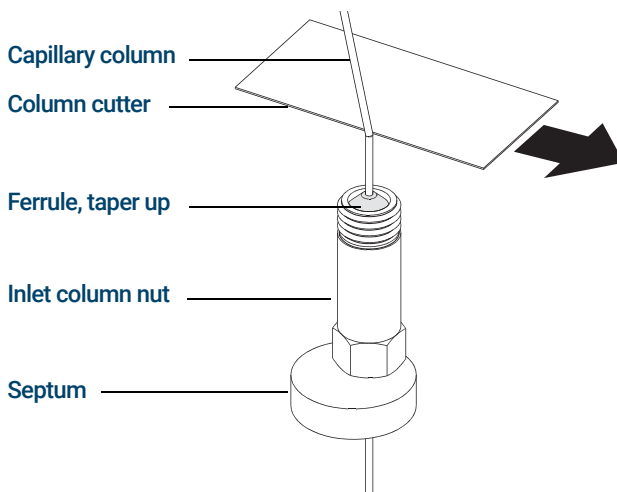

Figure 19. Preparing a capillary column for installation
- 2 Wearing clean gloves, press the column through the septum (this takes a bit of pressure). Then slide the column nut and conditioned ferrule onto the free end of the column. (See **Figure 19**.) The tapered end of the ferrule should point away from the column nut.